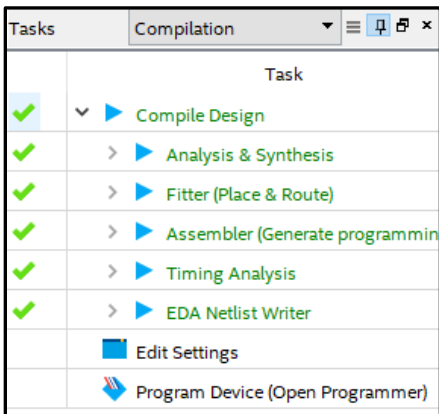

Figure 5: Compile Complete
- To compile your design, click on the blue isosceles triangle button (▶), or double click on “Compile Design” in the task utility window, or select “Processing” and then “Start Compilation”. You will be asked to save the bdf file because it has been modified. Select “Yes.” After the file is compiled (which depending on your computer, may take 30 seconds to two minutes), your task utility window should be similar to the image in Figure 5.